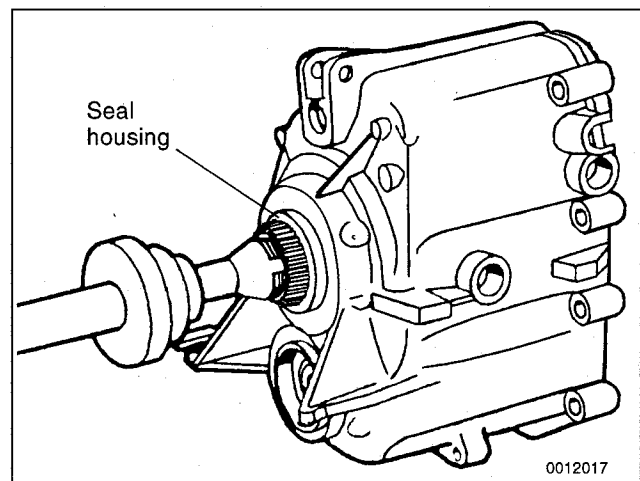

Fig. 7. Output shaft seal being installed using seal driver (BMW special tool no. 23 2 300).
8. Coat new seal with transmission fluid and drive into position until it is flush with housing. See Fig. 7.